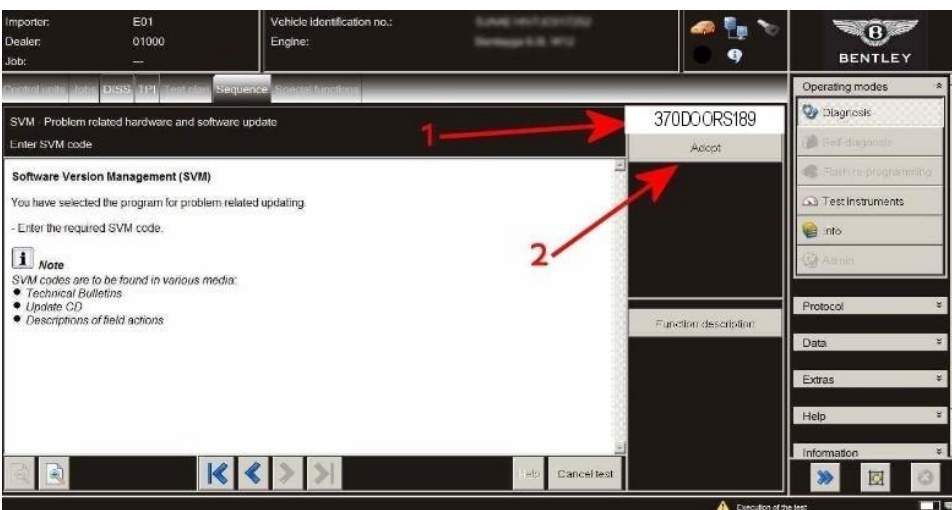

Figure 8.
4) At the SVM screen (1) enter the specific SVM code 370DOORS189 and then select Adopt (2) – Figure 8.